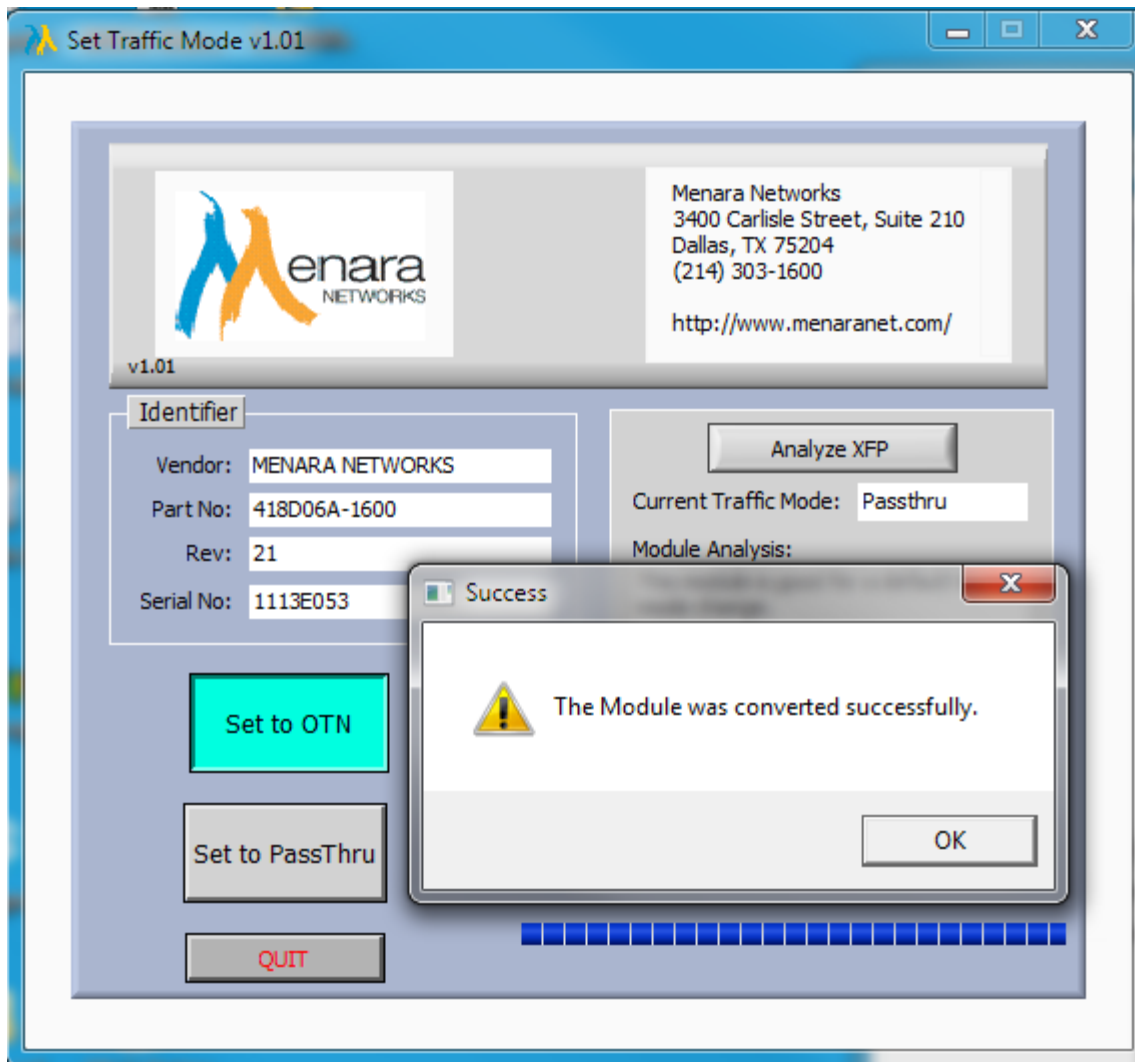

Figure 13: Traffic was Successfully Converted from PassThru to OTN mode.
5. Once the traffic mode switching is completed, the message as in Figure 13 will open up if the switching is successful.